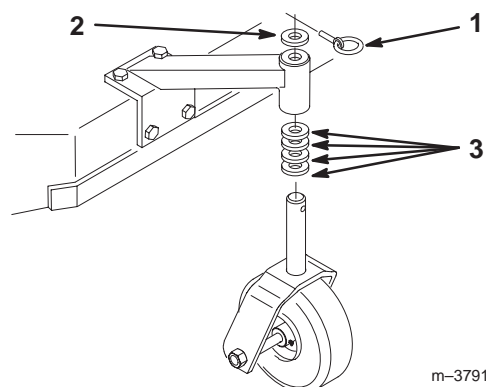

Figure 17
1. Using the Height-of-Cut Chart (on page 23), adjust the caster spacers to match with the axle hole selected (Fig. 17).
2. Remove the clevis pin, slide the caster from the support, and change the spacers (Fig. 17).
3. Install the caster in the support and insert the clevis pin (Fig. 17).